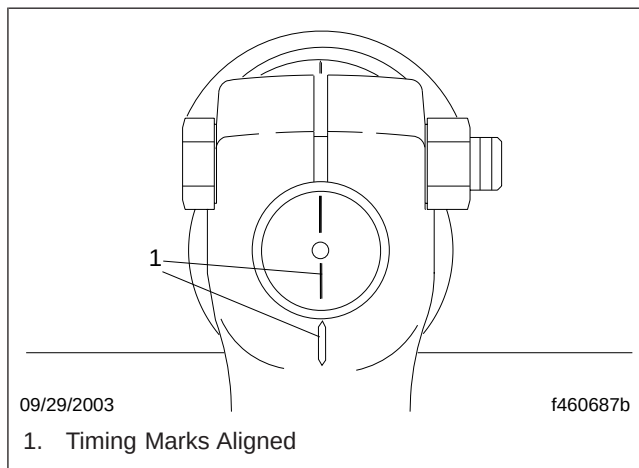

Fig. 2, Typical Pitman Arm and Timing Marks
- 4.1 Make sure that the timing mark on the pitman arm is aligned with the timing mark on the sector shaft. See Fig. 2.